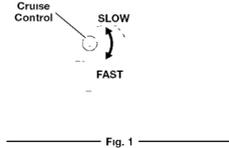

Fig. 1
1. Once the engine has been started and warmed up, squeeze the trigger to accelerate the unit as needed (Fig. 1).
2. For longer periods of operation and to eliminate possible finger fatigue, move the cruise control toward the **FAST position** to incrementally increase or maintain the unit's engine speed (Fig. 1). When the cruise control is pressed, the trigger will recede into the handle.
3. To decrease engine speed, move the cruise control to the **SLOW position** and the trigger will return to the idle position (Fig. 1).